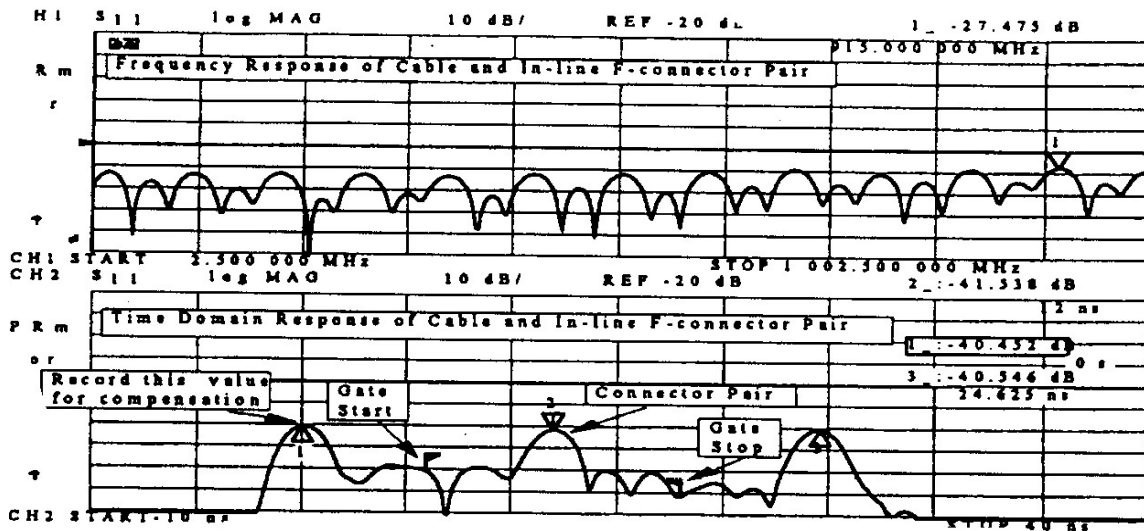
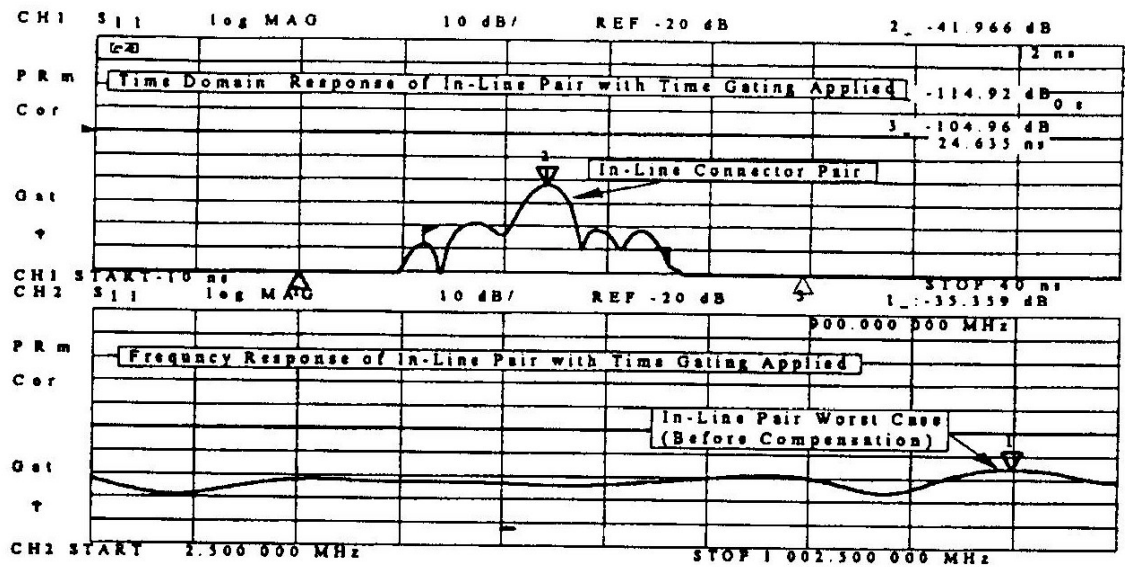

Figure 3: Frequency and Time Response of "F" Connector Pair
Figure 4: Time Gated Response of In-Line “F” Connector Pair
4.5 Prepare the test sample as described in 3.2. Connect this to the network analyzer. The reflection trace should show a ripple pattern, which is a beat pattern from both ends and the middle connector, as seen in the upper trace in Figure 3.
- 4.6 Under the System key, select the TRANSFORM menu. In this menu select the TRANSFORM ON. With time domain on, set the start time to -10 ns, and the stop time to 40 ns. You should see three returns, one from the near end, and one from the far end, and one from the middle, at approximately 12 ns. Record the value of reflection for the input connector (at time = 0 sec.). Set the gate start time to halfway between the near end return and the middle return (approx. +6ns), and the gate stop time to halfway between the middle return and the far end return (approx. +18 ns). The lower trace of Figure 3 shows a typical example of the three returns.
- 4.7 Turn the gating ON. The time domain pattern of the return loss should change to show only the response of the middle connector. With gating ON, the near and far end return should disappear. A typical example trace is shown in the upper part of Figure 4.
- 4.8 With gating left ON, turn the transform OFF to see the time gated frequency response. The ripple pattern of Figure 3 should change to show the frequency response of only the in-line “F” connector pair. The lower track of Figure 4 shows a typical time gated frequency response. A marker is positioned at the worst-case point. Note that there may be some small edge effect at the start and stop of the trace.